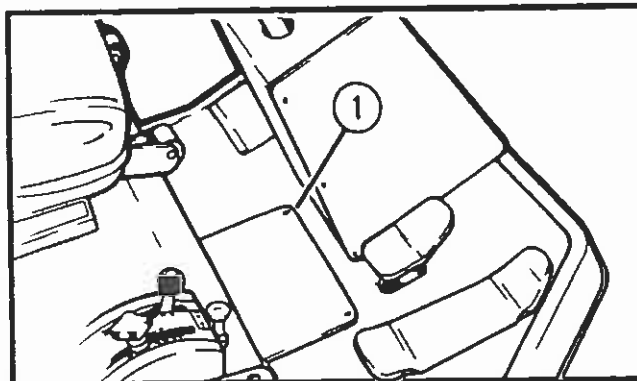

FIGURE 8
The battery is located beneath the center floorboard. For access to the battery to check fluid level or for charging, remove four (4) screws in top of access cover. See Figure 8.